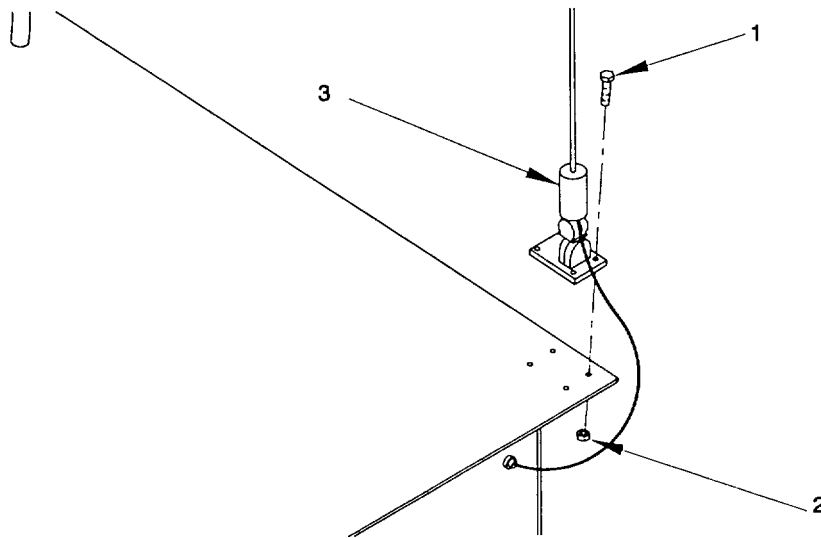

Figure 2-106. Antenna (VHF-FM), Remove/Install
a. *Remove.* (figure 2-106)
b. *Install.* (figure 2-106)
(1) Apply antiseize compound to threads on capscrews (1).
(2) Install new antenna and antenna mount (3) on cab. Secure with four capscrews (1) and four hex nuts (2).